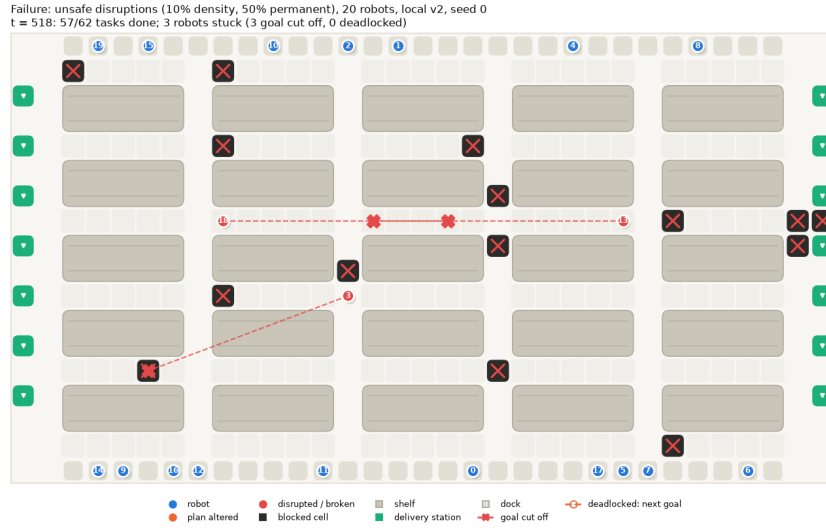

Figure 8: Failure example: permanently blocked cells (black) cut off the goals of robots 3, 13 and 18 (red). 5 of 62 tasks are never done.
1. Goals get cut off. When a cell is blocked for good, or a robot breaks down for good in a one-cell-wide aisle, it can wall off a pickup cell or a station (Figure 8). Then no method can finish that